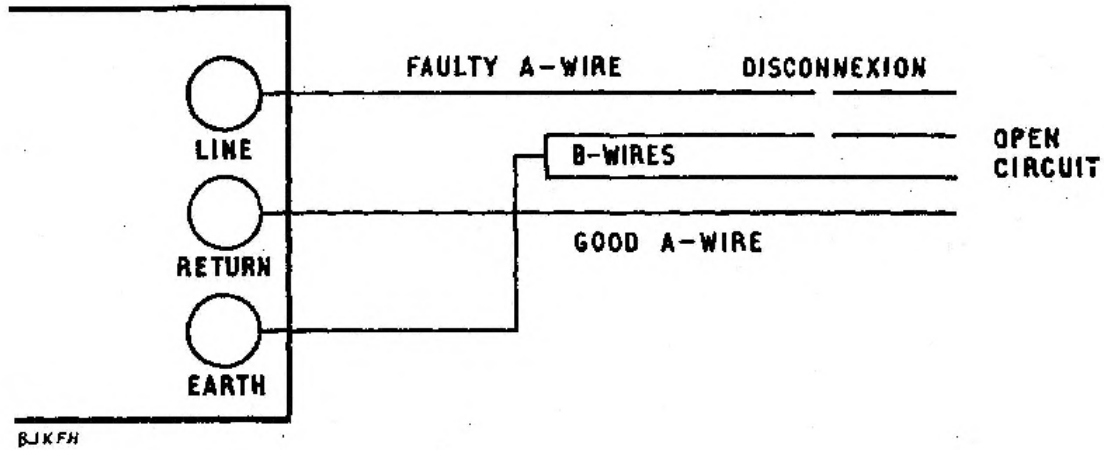

FIG 9 - DISCONNEXION ON ONE OR BOTH WIRES OF A PAIR (FAR-END OPEN-CIRCUITED)
10.2 If a good spare pair exists in the cable which cannot be looped to the faulty pair at the far end, connect and test as described in para 10.1 but with the far end open-circuited (see Fig 9). This test will not be so accurate as that described in para 10.1 but at zero balance:-
Fig 9 follows